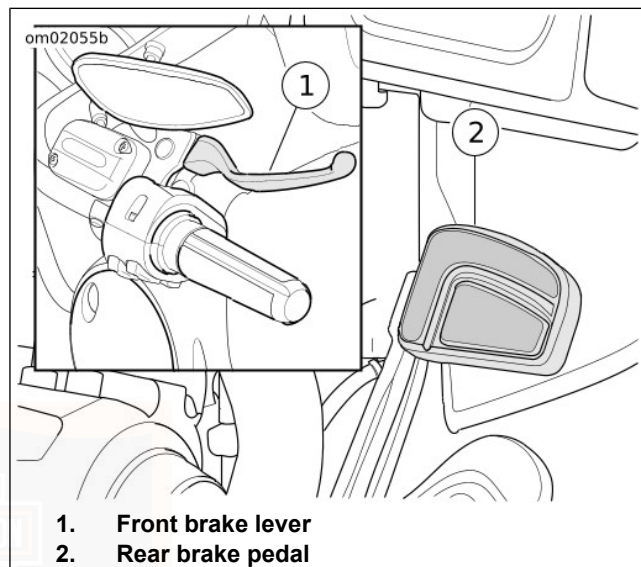

Figure 48. Brake Controls
See Figure 48. The front brake hand lever (1) controls the front wheel brake. The lever is on the right handlebar. Operate the hand lever with the fingers of the right hand.
See Figure 48. The rear brake pedal (2) controls the rear wheel brake. The pedal is on the right side. Operate the rear brake pedal with the right foot.